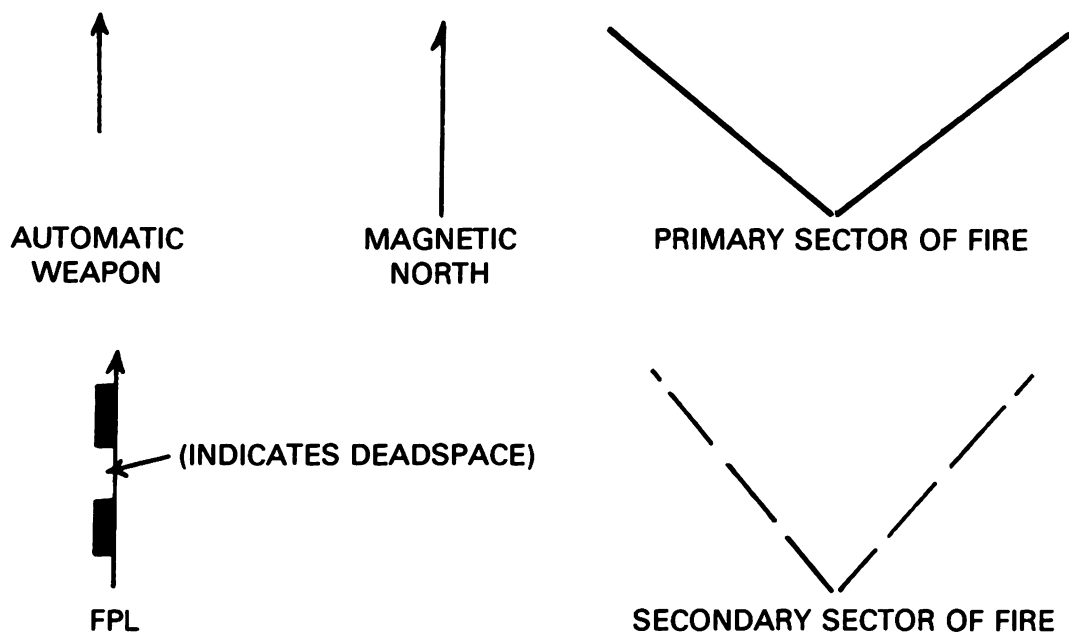

Figure 1. Symbols.
(1) Gun number (or squad).
(2) Unit designation (platoon and company).
(3) Date.
(4) Magnetic north arrow.
d. Use the lensatic compass to determine magnetic north and sketch in the basic symbol (figure 1) on the card with its base starting at the top of the marginal data section.